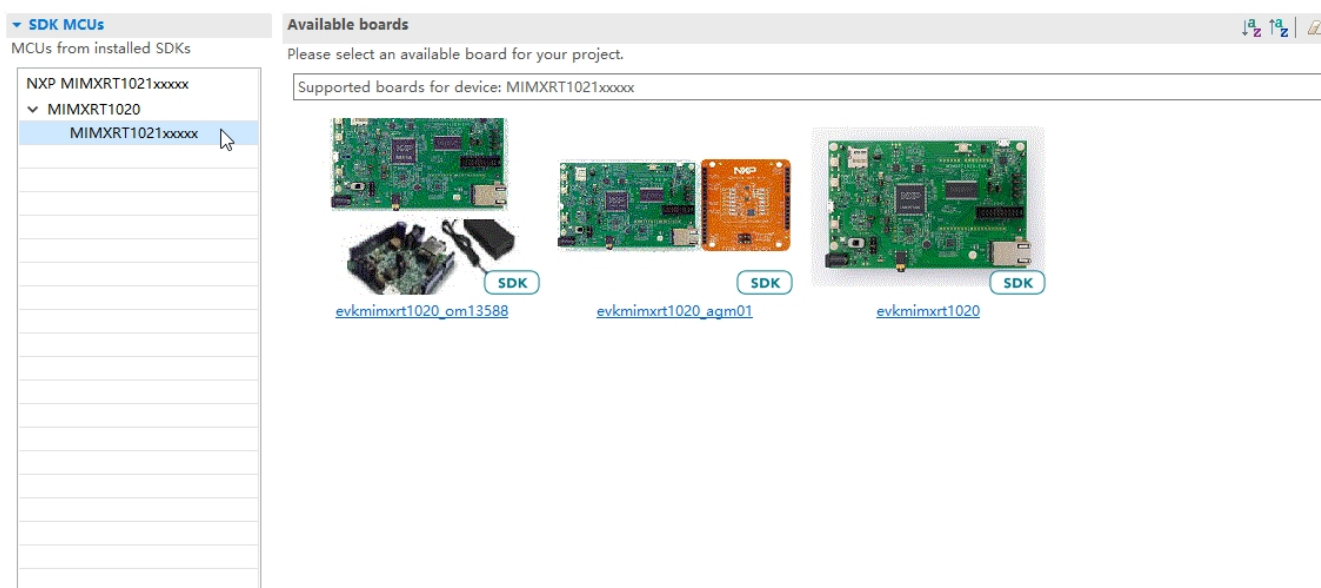

Figure 30. Selecting MIMXRT1024-EVK board
3. In the window that appears, expand the **MIMXRT1024** folder and select **MIMXRT1024xxxxx**. Then, select **evkmimxrt1024** and click **Next**, as shown in Figure 30.